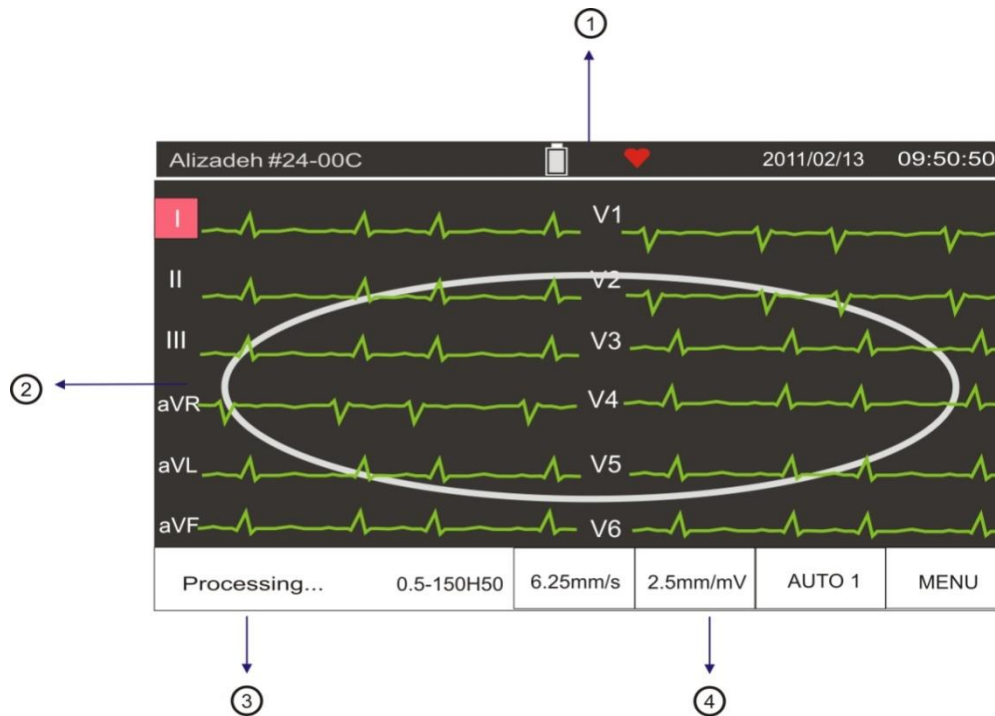

Figure 2-2 Display Screen
Dena is equipped with a TFT color screen. All 12-lead ECG waveform, HR value, Patient name/ID, Date and Time, system operating status, error and informative messages are displayed on the screen. The screen is divided into four areas: Header area (Figure 2-2-①), Waveform / Menu area, Lead error message area (Figure 2-2-②), informative and system error messages area (Figure 2-2-③) and touch keys area (Figure 2-2-④).
All electrodes connection is checked continuously by the system and in case of improper connection, the related message will appear in this area in red (Figure 2-2-②).
2- Informative and system error messages area (Figure 2-2-③).